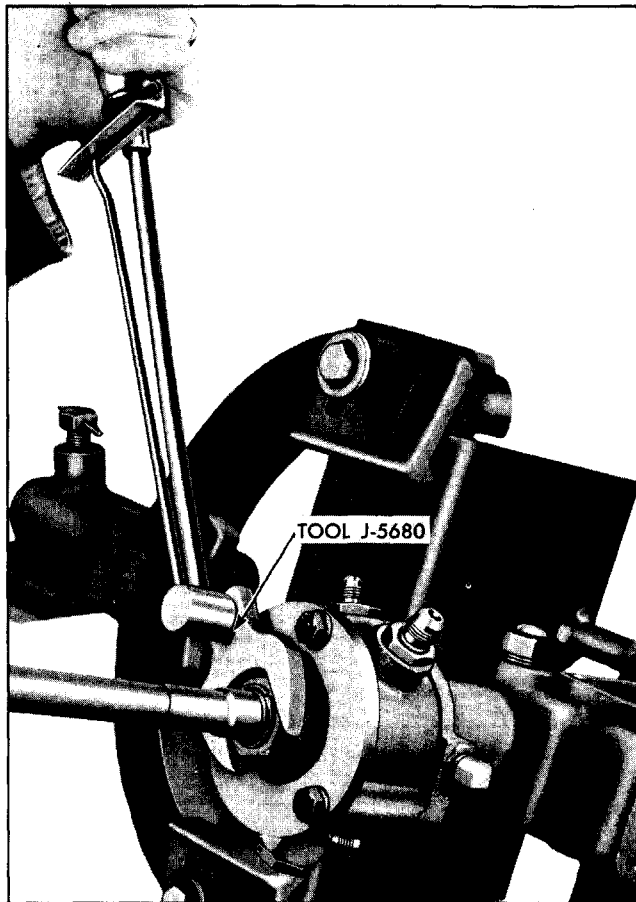

Fig. 9-45 Adjusting Thrust Bearing Nut Using Tool J-5680
b. Tighten locknut against spring washer (and spool valve) 20 to 30 lb. ft. torque, making sure the thrust bearings are properly seated and then back off nut $\frac{1}{4}$ to $\frac{1}{3}$ turn and stake in place. Use crowfoot wrench tool J-5680 and torque wrench (Fig. 9-45). To check bearings rotate the gear in each direction, observing for freedom of movement. Any bind or drag is indicative of improperly seated bearings.